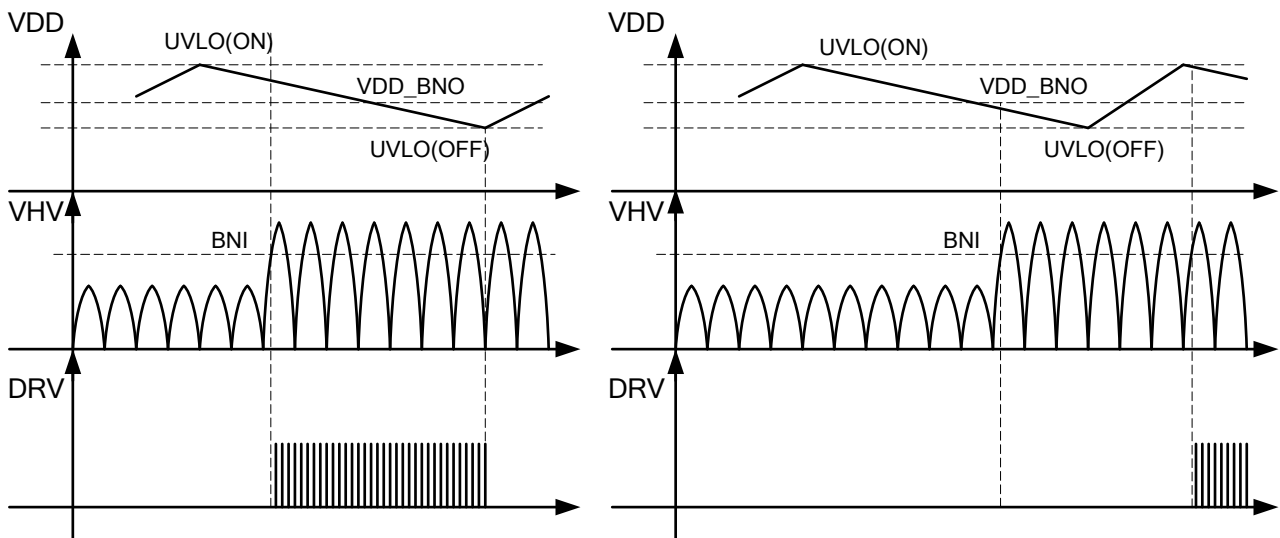

Fig. 5.2
The WT7160 features brown in/out protection on HV pin. When HV pin voltage (VHV) goes above brown-in threshold (BNI) and  $VDD > VDD\_BNO$ , the controller can start immediately. Otherwise, the controller actually starts the next time VDD reaches UVLO (ON), as shown in Fig. 5.2. When VHV goes below brown out threshold (BNO) for more than a de-bounce time, the controller will stop switching.